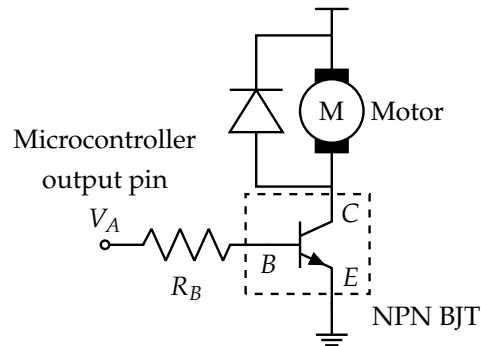

Figure 1: Motor Controller Circuit
In the lab project, you will be designing SIXT33N, a mischievous little robot who *might* just do what you want — if you design it correctly. In phases 1 and 2, you will build the **legs** of SIXT33N: you will be designing SIXT33N's wheels and developing a linear model for the car system. The wheels will be driven by two 9-Volt DC motors whose driver control circuit is shown in Figure 1 .
The BJT in Figure 1 is switching between **ON** and **OFF** modes when V_A is HIGH and LOW respectively. The model for both ON and OFF states are shown in Figure 3. When the BJT turns on, V_{BE} can be modeled as a fixed voltage source with voltage value V_{BE0} . In ON mode, there is a **Current Controlled Current Source** modeled between "Collector (C)" and "Emitter (E)", i.e., current at the "Collector (C)" is an amplified version of current at the "Base (B)" (notice that positive I_B has to flow into the "Base (B)" for the relation $I_C = \beta_F I_B$ to hold). β_F is called the **Common-Emitter Current Gain**.
- (a) Draw the equivalent motor controller circuit when the BJT is ON by substituting in the BJT model from Fig. 3a into Fig. 1. Express I_B and I_C for $V_A = V_{A,HIGH}$ as a function of R_B .
When V_A is HIGH, the voltage across the resistor in Figure 1 is $V_{A,HIGH} - V_{BE0}$. This voltage is what determines the the current flowing into the "Base(B)" (I_B) and current flowing into the "Collector (C)" (I_C).
- (b) **Draw the equivalent motor controller circuit when the BJT is OFF by substituting in the BJT model from Fig. 3b into Fig. 1. Express I_B and I_C for $V_A = V_{A,LOW}$ as a function of R_B .**